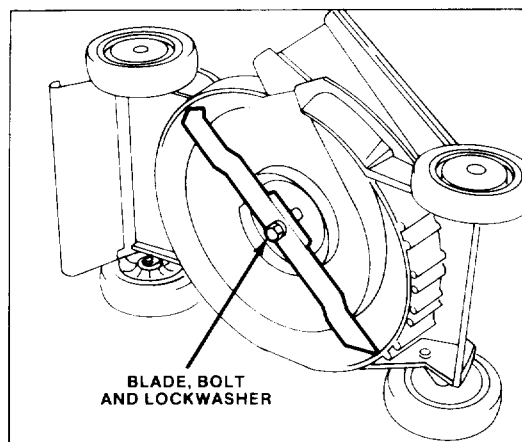

Figure 12
2. Tip mower on its left side (Fig. 12).
3. Tip mower on its left side (Fig. 12).
5. **REMOVING BLADE** — Grasp end of blade using as rag or thickly padded glove. Remove blade bolt, lockwasher and blade (Fig. 12).